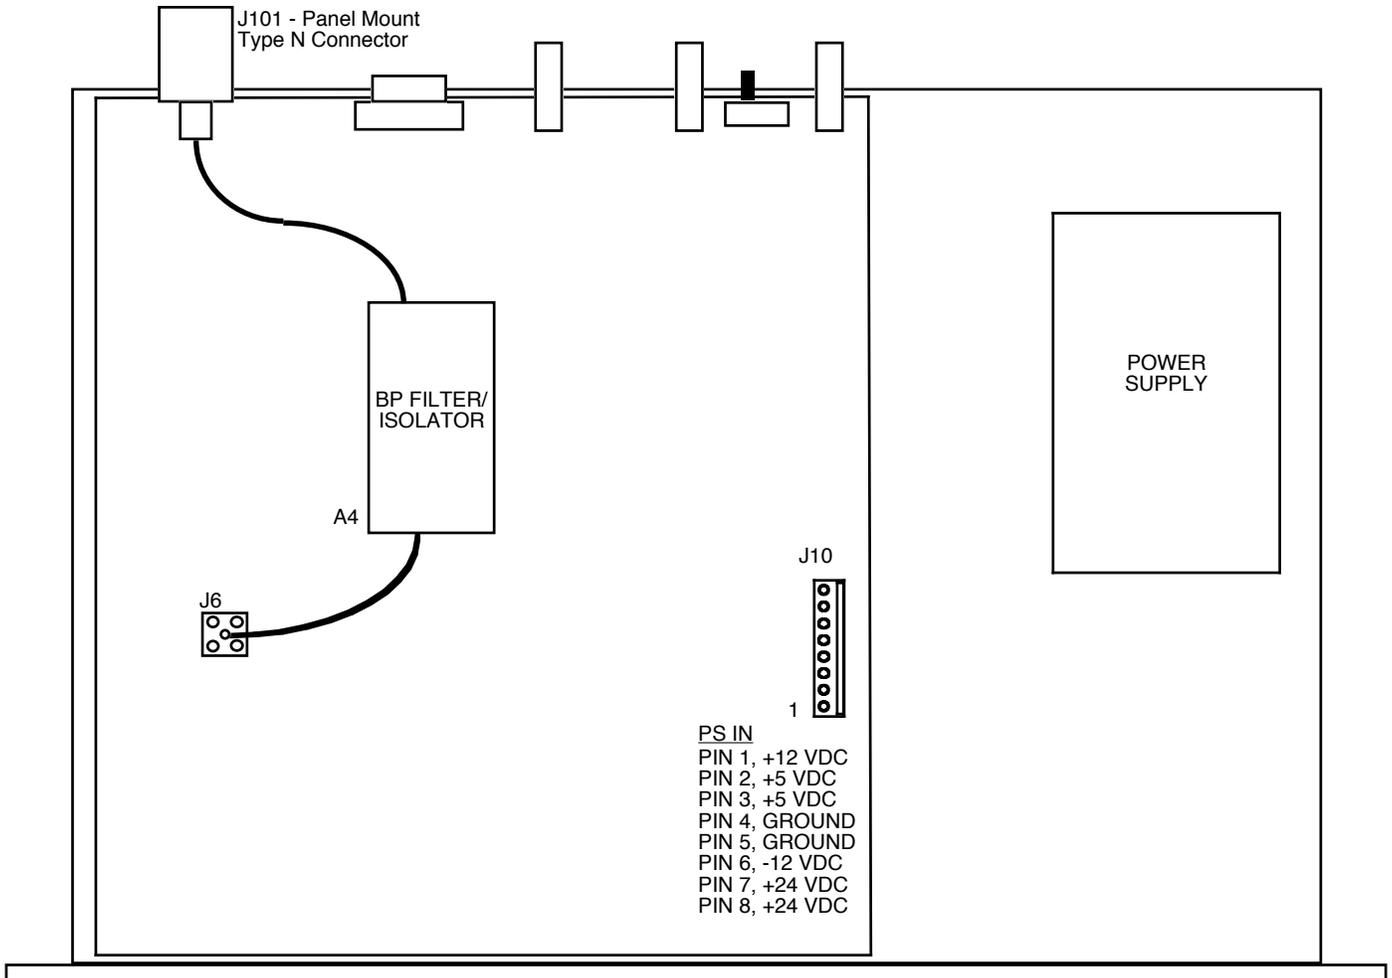

FIGURE 2.0 2116-126 Mechanical Assembly
2.1 Mechanical - The 2116-126 consists of one RF PCB housed in a 1 RU (1 3/4 inch high) by 12 inch deep chassis. A switching, ± 12 , $+24$, $+5$ VDC power supply provides power for the assemblies. The 2116-126 can be secured to a rack using the 4 holes on the front panel. Figure 2.0 shows how the 2116-126 is assembled.